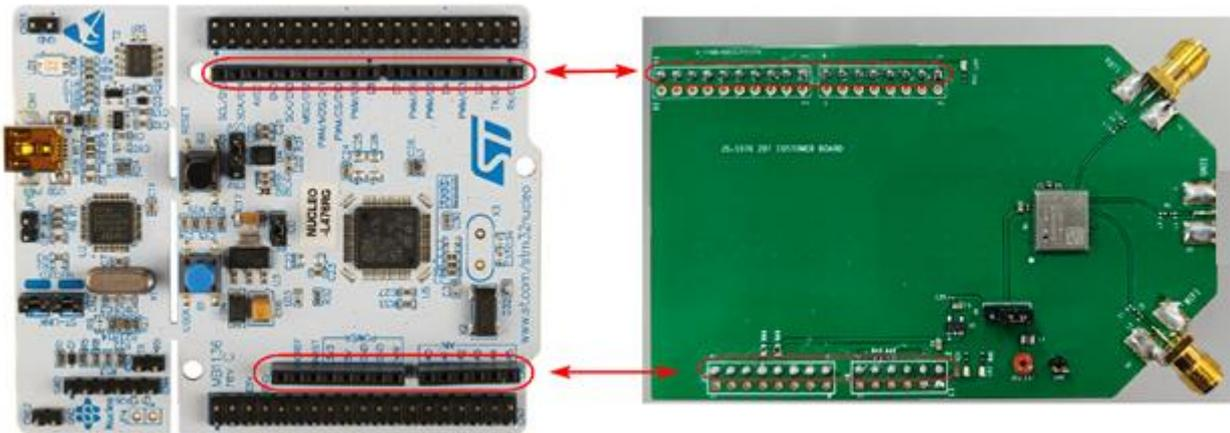

Figure 4: Connection between EVB and NUCLEO-L476RG platform
STEP1: Connect the EVB to the NUCLEO-L476RG. Make sure the pins are connected in the red areas on the EVB and platform as showed in the figure 4.